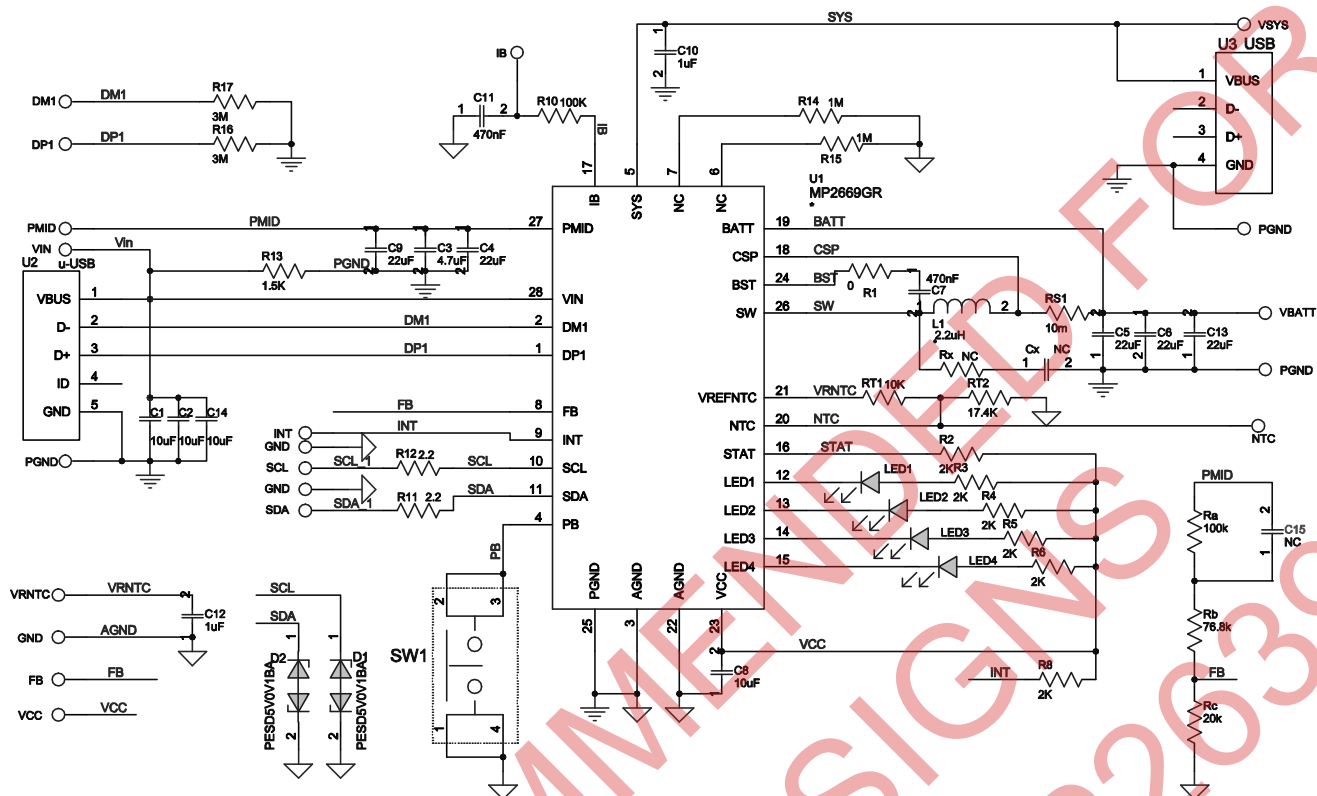

Figure 14: MP2669 for 5V Output Only
Figure 14 shows that an internal resistor divider sets the low temperature threshold (V_{COLD}) and high temperature threshold (V_{HOT}) at 71% $\times V_{VREFNTC}$ and 48.1% $\times V_{VREFNTC}$ respectively. For a given NTC thermistor, an appropriate R_{T1} and R_{T2} to set the NTC window can be calculated with Equation (5) and Equation (6):